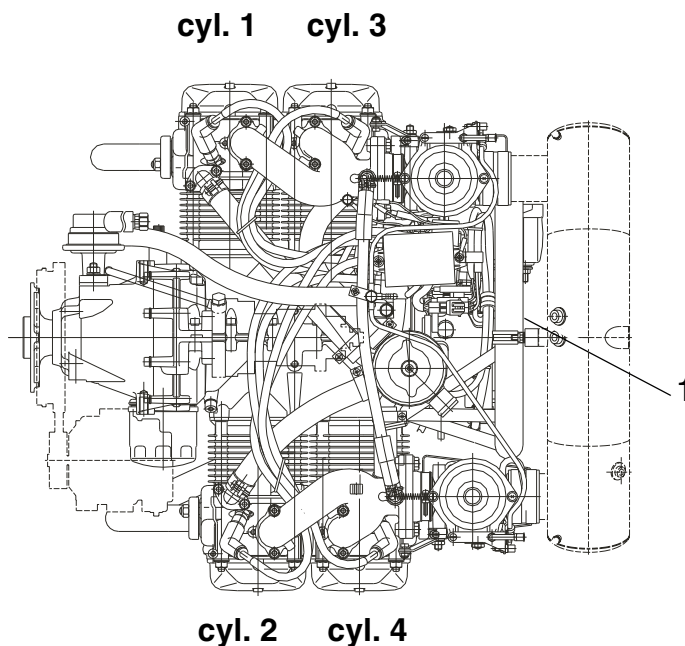

Fig. 1
Engine serial number	When making inquiries or ordering parts, always indicate the engine serial number, as the manufacturer makes modifications to the engine for product improvement. The engine serial number (1) is on the ignition cover, on the left, opposite the electric starter. See Fig. 1.